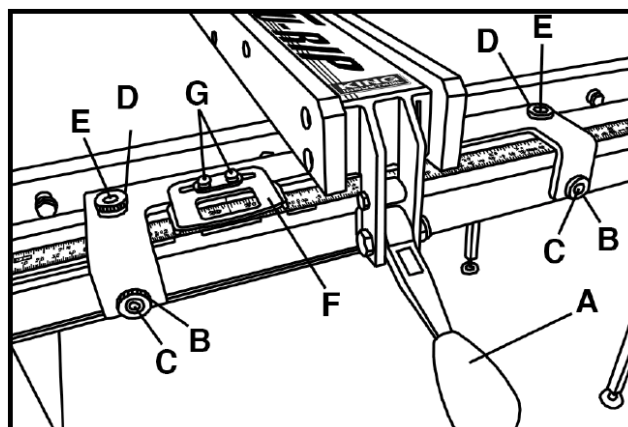
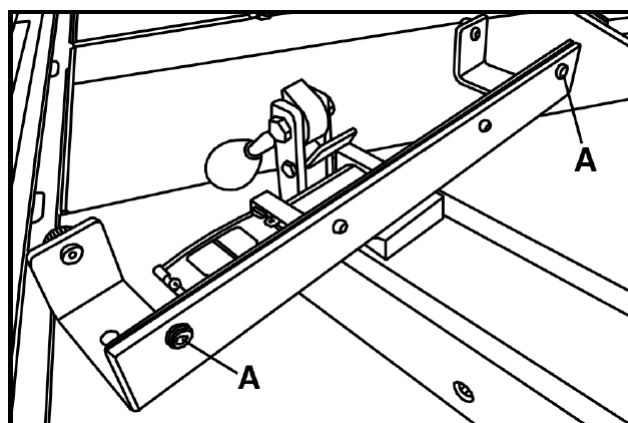

Fig.22
Fig.23
1.The rip fence must be perfectly aligned with the table T-slot, to verify this, align the edge of the rip fence with the table T-slot and lower the locking lever (A)**Fig.22** to lock in into place. Check to see if the edge of the rip fence and the table T-slot are parallel. If they are not parallel, unlock the rip fence and turn it upside down. Adjust the set screws (A) as **Fig.23** in or out, verify your adjustment, repeat if necessary.
2.The lock lever pressure can be adjusted by loosening the front lock nuts (B) as **Fig.22** and adjusting the set screws (C) the same amount, make sure the fence remains parallel with the table T-slot. Retighten lock nuts.
3.To set the fence perpendicular to the table, place a square on the table and against the side of the fence, loosen the top lock nuts (D) and adjust the setscrews (E) until the fence is perpendicular. Retighten lock nuts.
4.The pointer window (F) as **Fig.22** position can be adjusted if needed, loosen pan head screws (G), reposition the pointer window and retighten pan head screws.